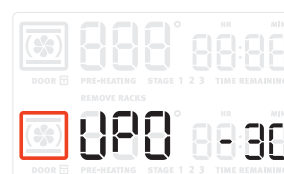

Figure 30: Oven temperature set 30° lower than default
1. Press **user pref** until **UPO** appears in the display (Figure 30).
2. To decrease the oven temperature by 30°F, press **-lo** until **-30** appears (Figure 30).